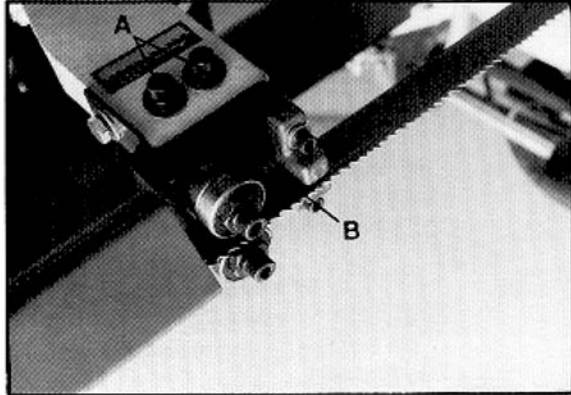
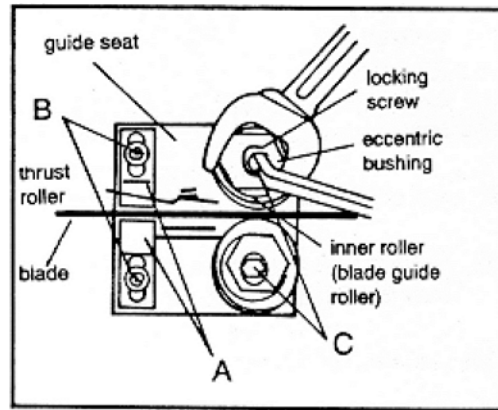

Figure 10
Figure 11
2. Loosen two hex socket cap screws (A, Figure 10).
3. Move guide seat (B, Figure 10) up or down until a clearance of 0.003" to 0.005" between back of blade and thrust roller is obtained.
4. Tighten two hex socket cap screws (A, Figure 10).
2. Loosen blade guides (A, Figure 11) by loosening screws (B, Figure 10). Slide blade guides away from blade.
3. Loosen locking screws (C, Figure 11) by using a hex wrench.
5. Tighten locking screws (C, Figure 11).
6. Slide blade guides back into contact with blade and tighten screws (B, Figure 11).